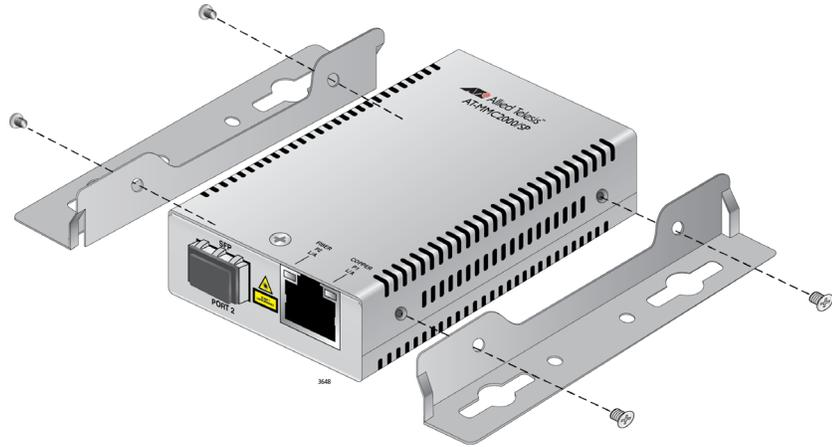

Figure 30. Attaching the Brackets to the Media Converter
4. Orient the brackets against the sides of the unit, as shown in Figure 30, and secure them to the unit with the four of the brackets screws included.